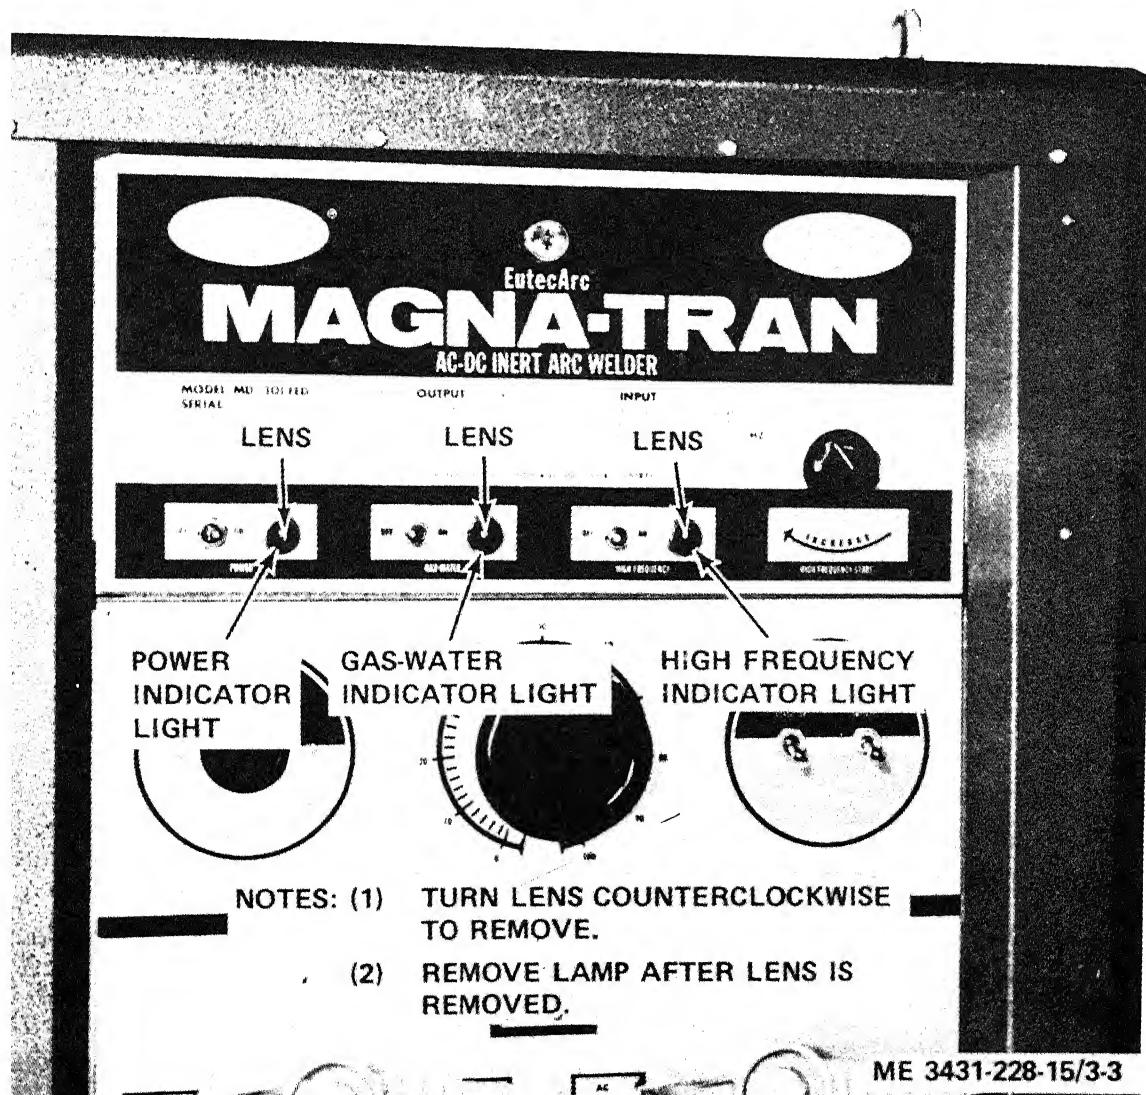

Figure 3-3. Removing and installing pilot lamps.
- Pilot Lamps.* Refer to figure 3-3 for removal